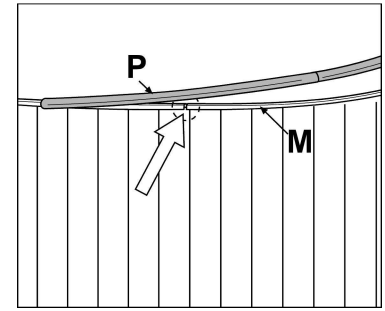

fig.25
2- Place the 2 profiles (already linked) against the metallic guide (M) that holds the wooden slats and make it match the joint of the metal guides (shown in the picture Fig. 25 with an arrow) with the center of the plastic profile (P). This will make the link more solid.